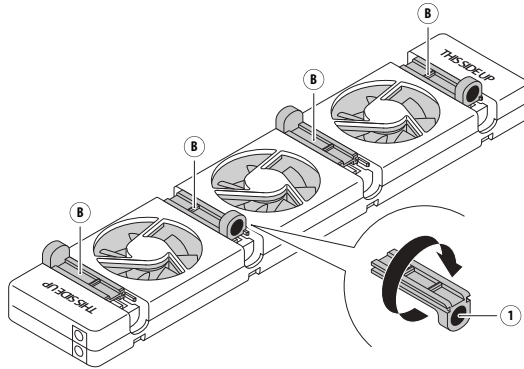

Fig. 5 - Return the adjustable magnets into the **SpeedComfort (A)**.
1. Turn the **adjustable magnets (B)** until the **magnet (1)** is on top (see fig. 5). Remove the small block located opposite to the adjustable magnets in the housing. Please dispose of the block as plastic waste.
2. Adjust the **adjustable magnets (B)** to the correct width.
3. Repeat step 1 – 7 as for the wide radiator. Use the **adjustable magnets (B)** to hang the **SpeedComfort (A)** between the plates (see fig. 5 and 6). You can align the **SpeedComfort** on the front of the radiator.